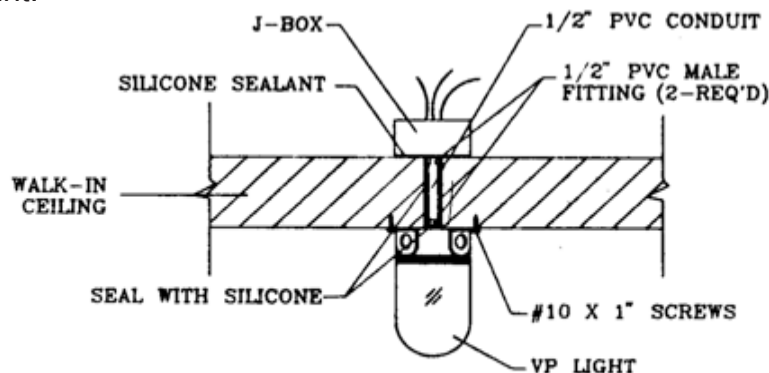

FIGURE 31 - CEILING MOUNTED VP LIGHT SECTION
2. If local code permits, use PVC electrical conduit and fittings. Install the vapor proof lights per Figure 31. Seal all interior conduits to prevent condensation.